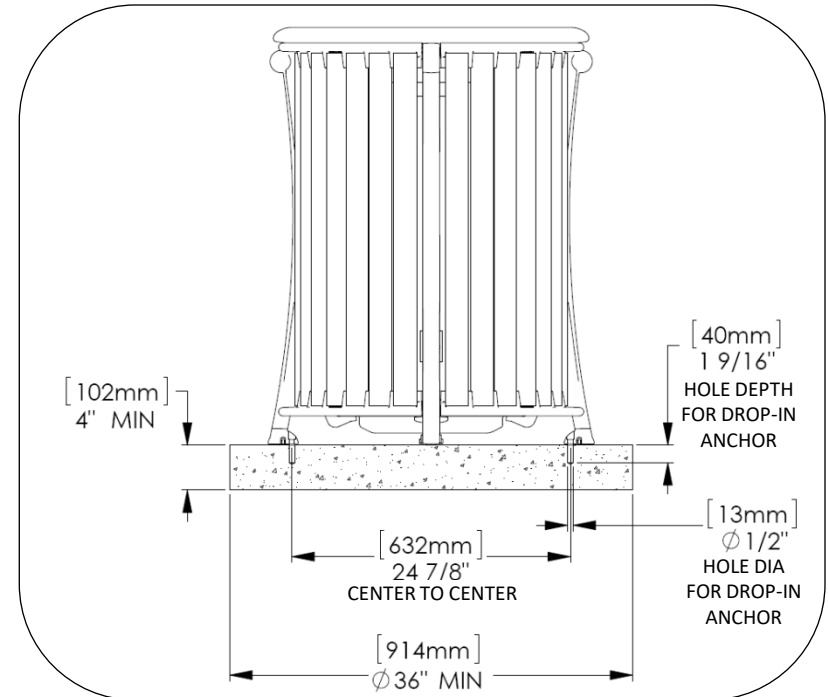

Fig. 2 – Anchor hole details for drop-in anchors
2. Move litter and finish marking the holes, see Fig. 2. Drill holes according to Fig. 2. Clear holes of debris. Install drop-in anchors. Drop-in should sit flush with grade. Set anchor with setting tool. If top of drop-in anchor sits below grade, a longer screw may be required.